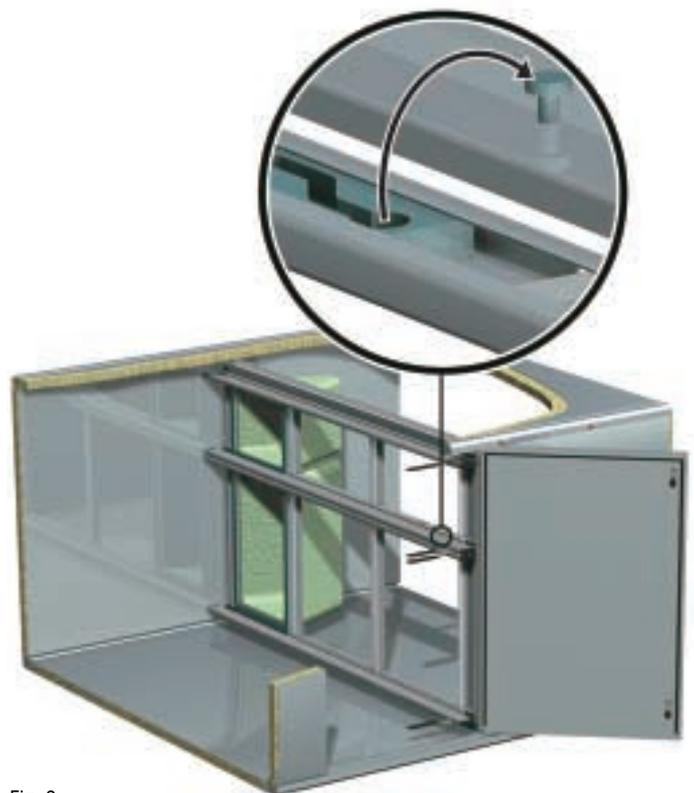

Fig. 9
- J. Replace the excentric locking beam on the locating pins and push the beam into the locked position. Fig. 9